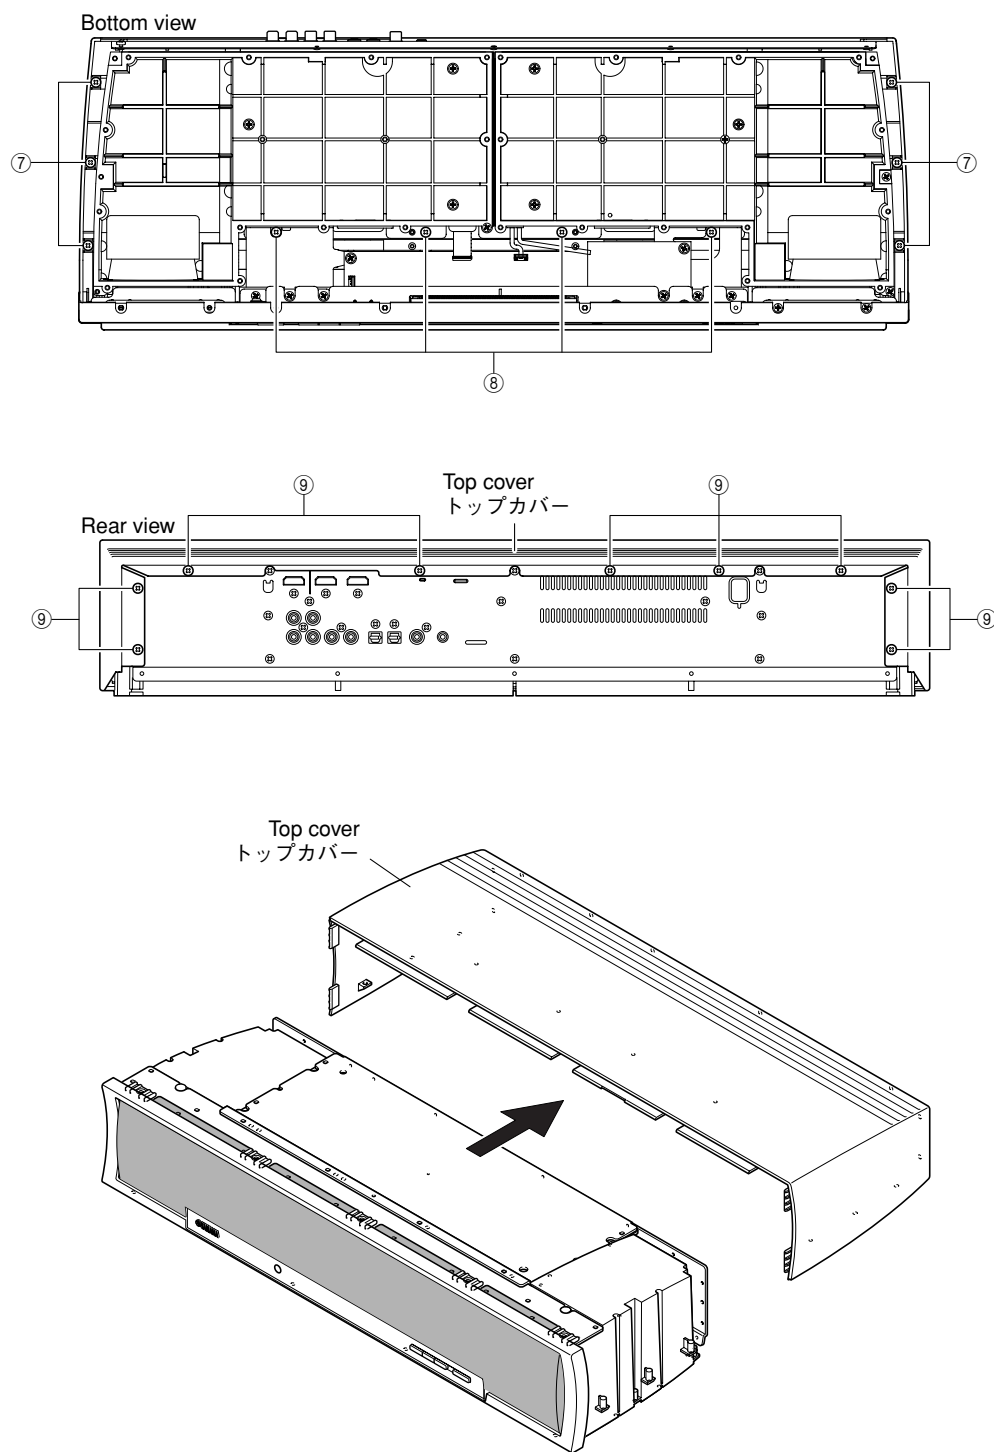

Fig. 10
- Remove 6 screws (⑦), 4 screws (⑧) and 9 screws (⑨). (Fig. 10)
- ⑦のネジ6本、⑧のネジ4本、⑨のネジ9本を外します。(Fig. 10)